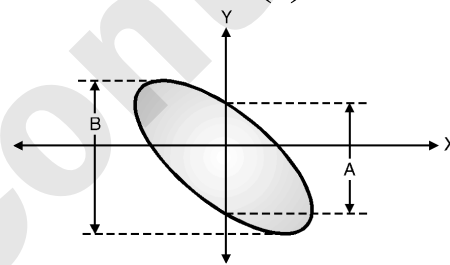

Fig. 1.11.3 : Lissajous pattern for ellipse for $90^\circ < \theta < 180^\circ$
- iv. For the phase difference above 90° and less than 180° , the ellipse appears as shown in Fig. 1.11.3. The phase shift is,